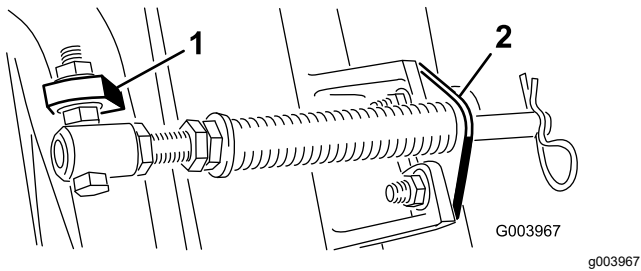
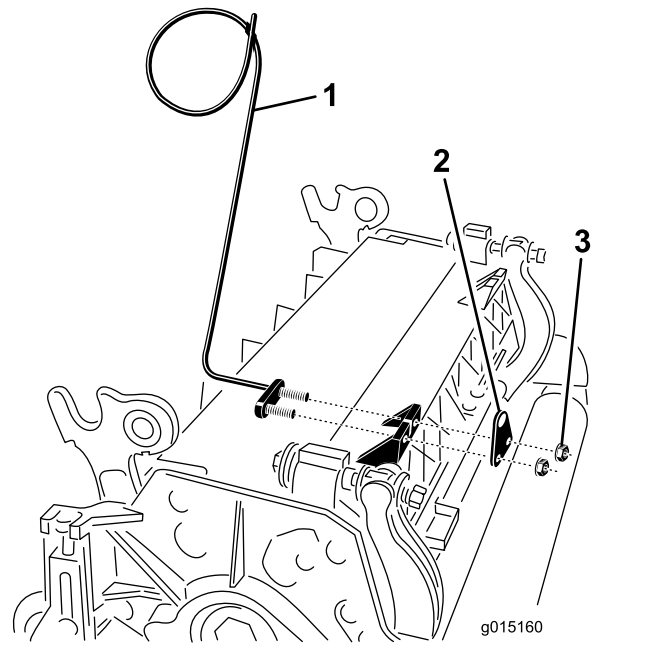

Figure 11
Figure 13
Note: Position the bolt head to the outer side of the tab as shown in Figure 11.
E. Mount the rod bracket to the cutting unit tabs with the carriage bolts and nuts (Figure 11). On the cutting unit, mount the left hose guide to the front of the cutting unit tabs when installing the rod bracket (Figure 13).